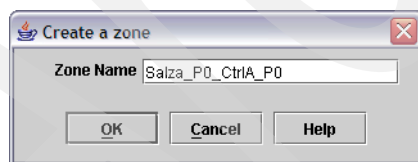

Figure 24-7 Zone Name
4. Enter a zone name (Figure 24-7) and click **OK**.